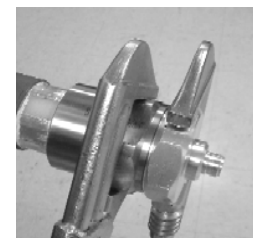

Figure 8
- 6) **Tighten the connector** with wrenches by **holding** front-nut while **turning** back-nut until back-nut reaches a positive stop (Figure 8). (Tools required: Adjustable Wrenches)